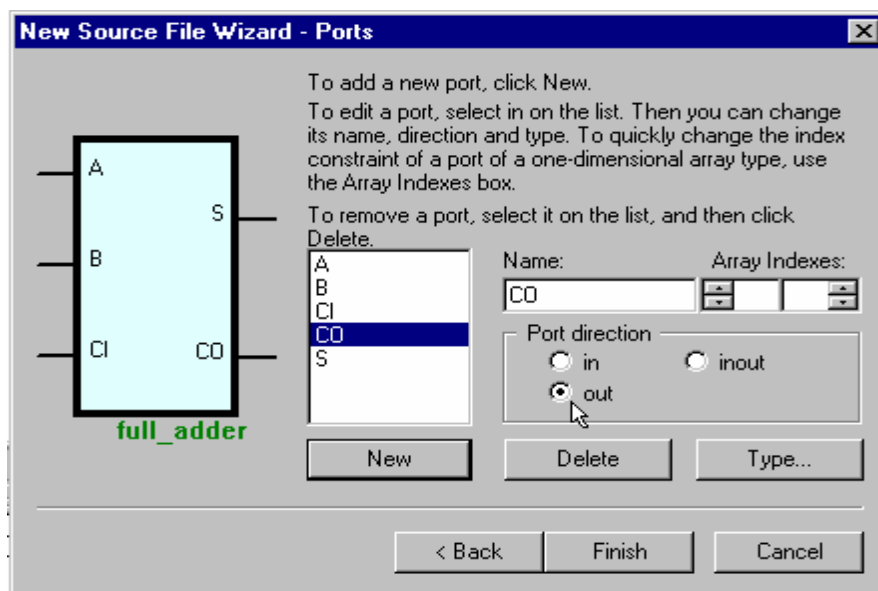

Figure 9
2. Click the Wizards tab in the Add New File window. Select the Block Diagram Wizard icon, and then click the OK button (Figure 9).
9. We will only be using 1-bit ports, so ignore the “Array Indexes” fields for now. Your screen should look like Figure 9. If so, then click the Finish button.